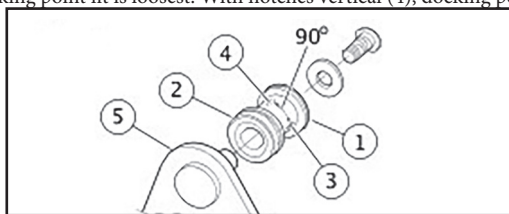

Figure 1. Docking Point Installation
7. Install the screws (6) into the docking plate pins. Rotate each docking point to position the notches horizontally (Figure 1, item 3). Tighten the screws until snug.
- Apply 2 or 3 drops of Loctite 243 - Blue to the threads of each screw (6). Install screws. Rotate each docking point to position the insert notches horizontally (Figure 1, item 3). Tighten screws until snug.
- Install washers (5) to each docking point. Install spacer and docking point (thicker flange first) to each docking point pin.
- See Figure 1. Rotate the docking points (1) slightly away from horizontal until a tight fit is achieved at each location.